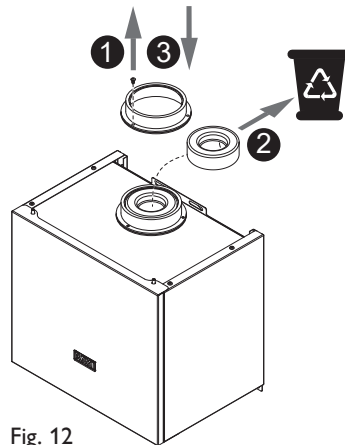

Fig. 12
4. Undo the screws securing the top flue adaptor and remove the adaptor. Retain the screws & adaptor for reuse. Extract the blanking cap and discard, recycling where possible. Refit the adaptor and secure with the screws previously removed (Fig. 12).